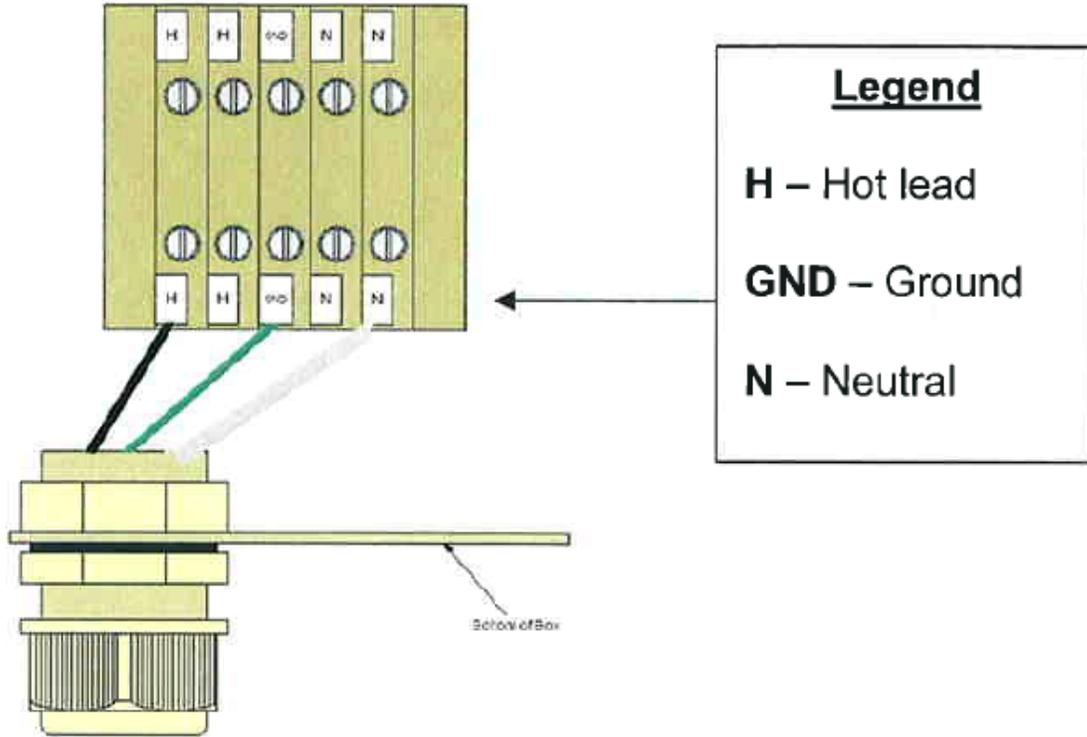

FIGURE 7
The electrical wiring should be routed through the strain relief bushing to the terminal block. Refer to wiring diagram – figure 7.
Figure 7 represents the terminal block and power leads that are wired to the terminal block inside the enclosure.
1. The **black** wire in figure 7 represents the hot lead and should be attached to the terminal block that is labeled 'H'.
2. The **green** wire in figure 7 represents the ground connection. The ground lead should be attached to the terminal block that is labeled 'GND'.
3. The **gray** wire in figure 7 represents the neutral. The neutral wire should be attached to the terminal block labeled 'N'.